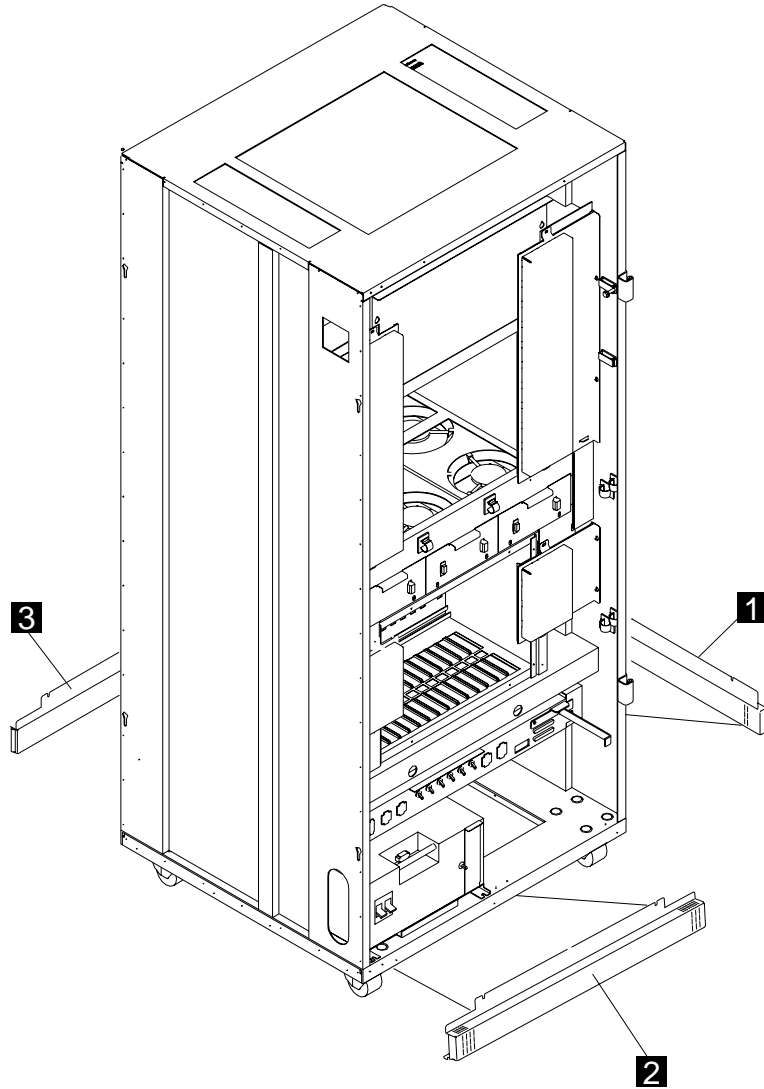

Figure 9-1. 3746-900 Ground Brackets (Front View)
- Step 1. \_\_\_\_ Install the front ground plate **2** PN 63F2606 and right ground plate **1** PN 63F2608 using screws PN 2665527 (refer to Figure 9-1).